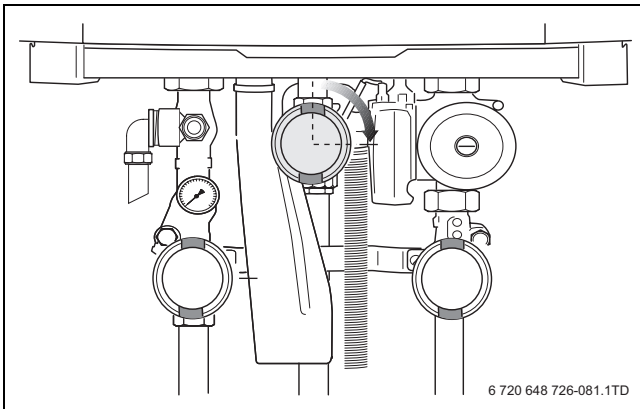

Fig. 81 Closing the gas valve
- ▶ Close the gas valve in a clockwise direction (→ fig. 81, page 50).
- ▶ Close the gas valve (→ fig. 81, page 50).